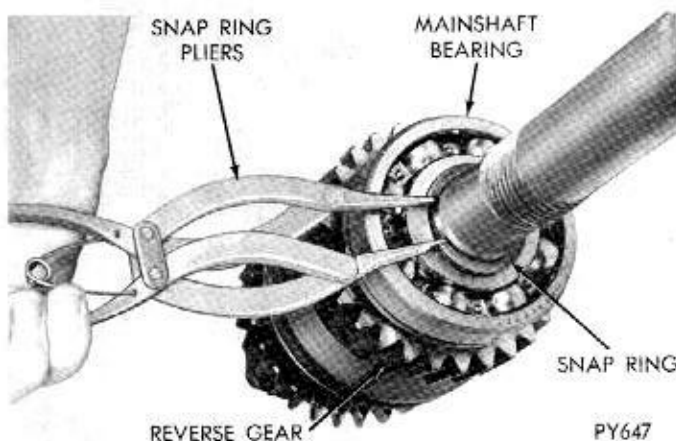

Fig. 18—Snap Ring—Mainshaft Bearing to Shaft—Removal or Installation
(5) Remove snap ring securing bearing to mainshaft (Fig. 18).
(6) Set up parts in arbor press to force bearing off
(19) Install bearing retaining snap ring on mainshaft (Fig. 18).